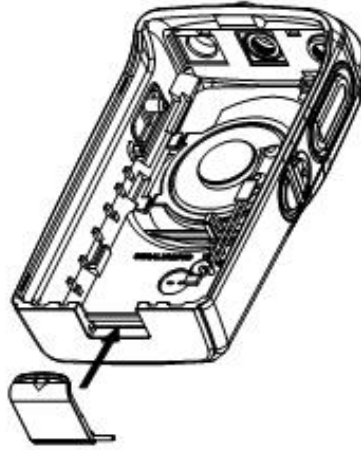

Figure 2-10
6. Place the latch onto the housing, with the shaft protruding on the right side of the latch (see “Figure 2-10”).